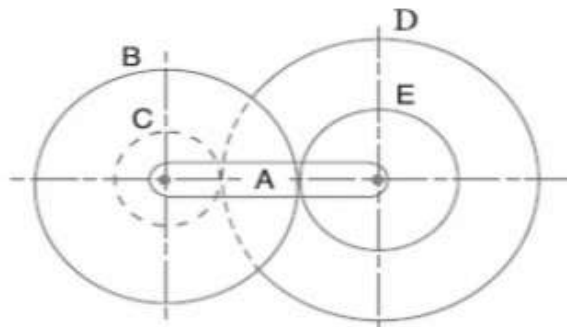

Fig. 3
- (B) Determine the maximum permissible angle between the shaft axes of a universal joint if the driving shaft rotates at 800 rpm and the total fluctuation of the speed does not exceeds 60 rpm. Also compute maximum and minimum speeds of driven shafts. **06**
4. (A) In an open belt drive, the diameters of the larger and smaller pulley are 1.2 m and 0.8 m respectively. The smaller pulley rotates at 320 rpm. The center distance between the shafts is 4 m. When stationary, the initial tension on the belt is 2.8 kN. The mass of belt is 1.8 kg/m and the coefficient of friction between the belt and pulley is 0.25. Determine the power transmitted. **10**
- (B) A cord wrapped around a solid cylinder of radius 'r' and mass 'm'. The cylinder is released from rest. Determine the velocity of its centre of mass after it has moved down a distance 'h'. **10**
5. (A) Fig 3 shows a reverted epicyclic gear train, the arm A carries two gears B and C and a compound gear D – E. The gear B meshes with gear E and the gear C meshes with gear D. The number of teeth on gears B, C and D are 75, 30 and 90 respectively. Find the speed and direction of gear C when gear B is fixed, and the arm A makes 100 r.p.m. clockwise **10**